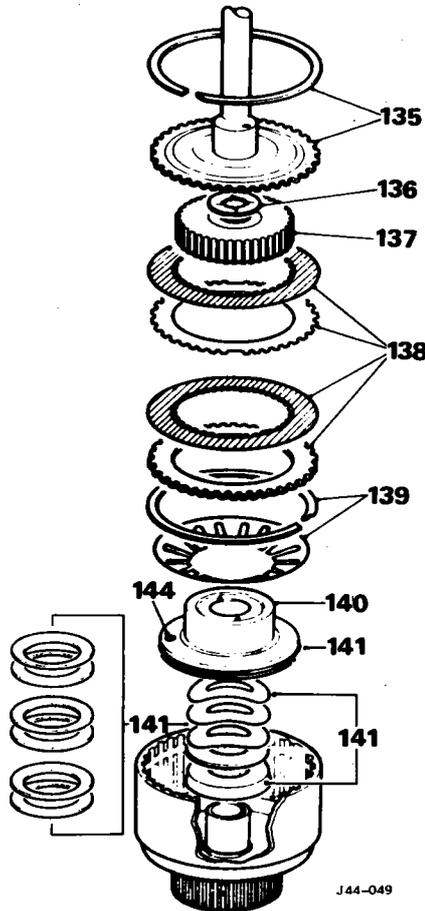

Fig. 48
- 135. Remove the snap-ring and withdraw the turbine shaft (Fig. 48)
- 136. Remove and discard the bronze thrust washer (Fig. 48).
- 137. Remove the clutch hub (Fig. 48).
- 138. Remove the inner and outer clutch plates and ring gear (Fig. 48).
- 139. Remove the snap-ring and diaphragm (Fig. 48).
- 140. Remove the piston by applying air pressure to the supply hole in the clutch housing pedestal (Fig. 48).
- 141. Remove the plain and Belleville washers; remove and discard the seal and 'O' ring (Fig. 48).
- 144. Inspect the piston check valve for free operation (Fig. 48).